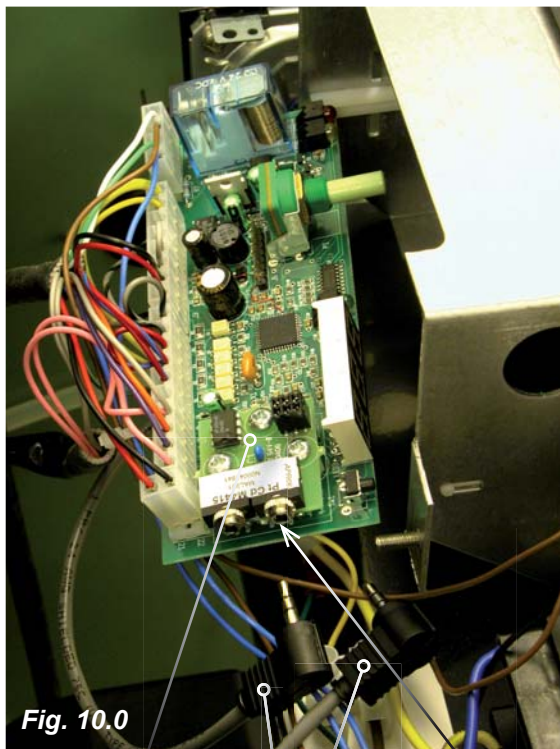

Fig. 10.0
- Remove pool thermostat PCB by removing the retaining plate and carefully slide out until fully accessible. (Fig. 10.0)
- Carefully fit the adapter kit PCB in the space behind the pool temp display on the PCB (Fig. 10.0) ensuring that the six pins on the PCB pass through the underside of the adapter PCB and, that the plastic locking pillars snap into place. Refit pool thermostat PCB and knob.